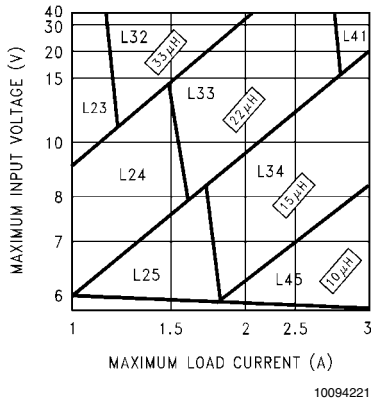
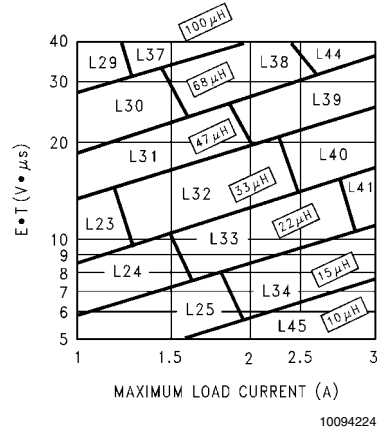

FIGURE 3. LM2670-3.3
FIGURE 6. LM2670-ADJ
Step 3: Determine the inductor required by using one of the four nomographs, *Figure 3* through *Figure 6*. Table 1 provides a specific manufacturer and part number for the inductor.
Step 5: Determine an input capacitor from Table 4 for fixed output voltage applications. Use Table 2 to find the specific capacitor type. For adjustable output circuits select a capacitor from Table 2 with a sufficient working voltage (WV) rating greater than $V_{in\ max}$, and an rms current rating greater than one-half the maximum load current (2 or more capacitors in parallel may be required).
Step 3: Use the nomograph for the 3.3V device, *Figure 3*. The intersection of the 16V horizontal line ($V_{in\ max}$) and the 2.5A vertical line ($I_{load\ max}$) indicates that L33, a $22\mu\text{H}$ inductor, is required.
Step 3: To use the nomograph for the adjustable device, *Figure 6*, requires a calculation of the inductor Volt•microsecond constant ($E \cdot T$ expressed in $V \cdot \mu s$) from the following formula:
Using *Figure 6*, the intersection of $27V \cdot \mu s$ horizontally and the 2A vertical line ($I_{load\ max}$) indicates that L38, a 68 μH inductor, should be used.
Important Note: When using the adjustable device in low voltage applications (less than 3V output), if the nomograph, *Figure 6*, selects an inductance of 22 μH or less, Table 6 does not provide an output capacitor solution. With these conditions the number of output capacitors required for stable operation becomes impractical. It is recommended to use either a 33 μH or 47 μH inductor and the output capacitors from Table 6.